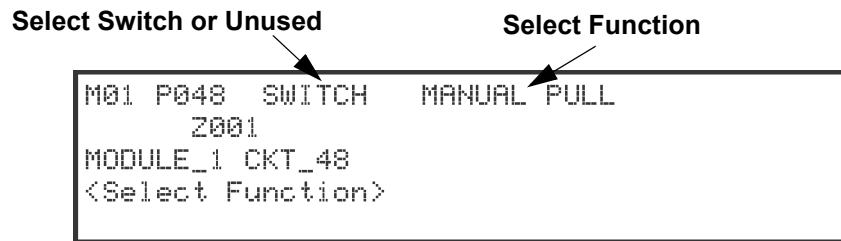

Figure 9.5 Programming Points as inputs for the 5880 Modules
10. To use 5880 as Input point, Enter point number 41 - 48. (See Figure 9.5). Then press ENTER.
12. Press the up or down arrow key to select the desired function. (See Figure 9.5), then press ENTER.